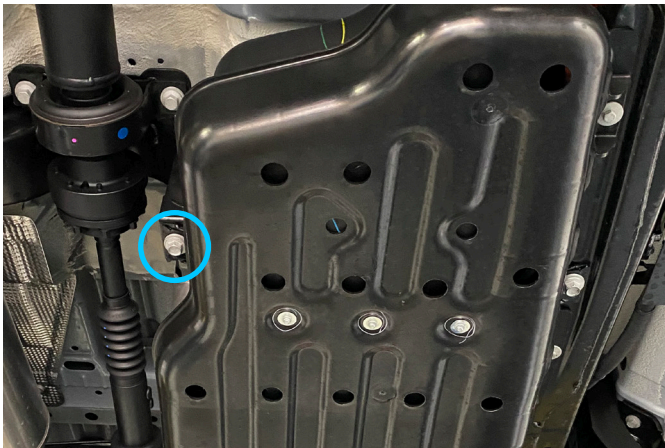

Fig. 1
1. Loosen front right OE bolt, as shown in fig.1.